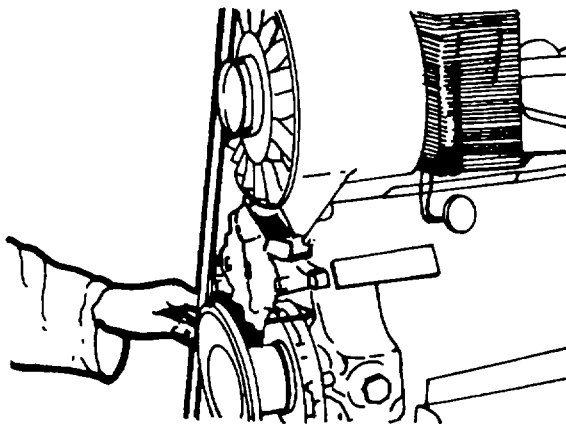

Figure 5-48. Checking Alignment of V-Belts
4. Mount the cooling air blower and check the two V-belt pulleys for alignment (figure 5-48).